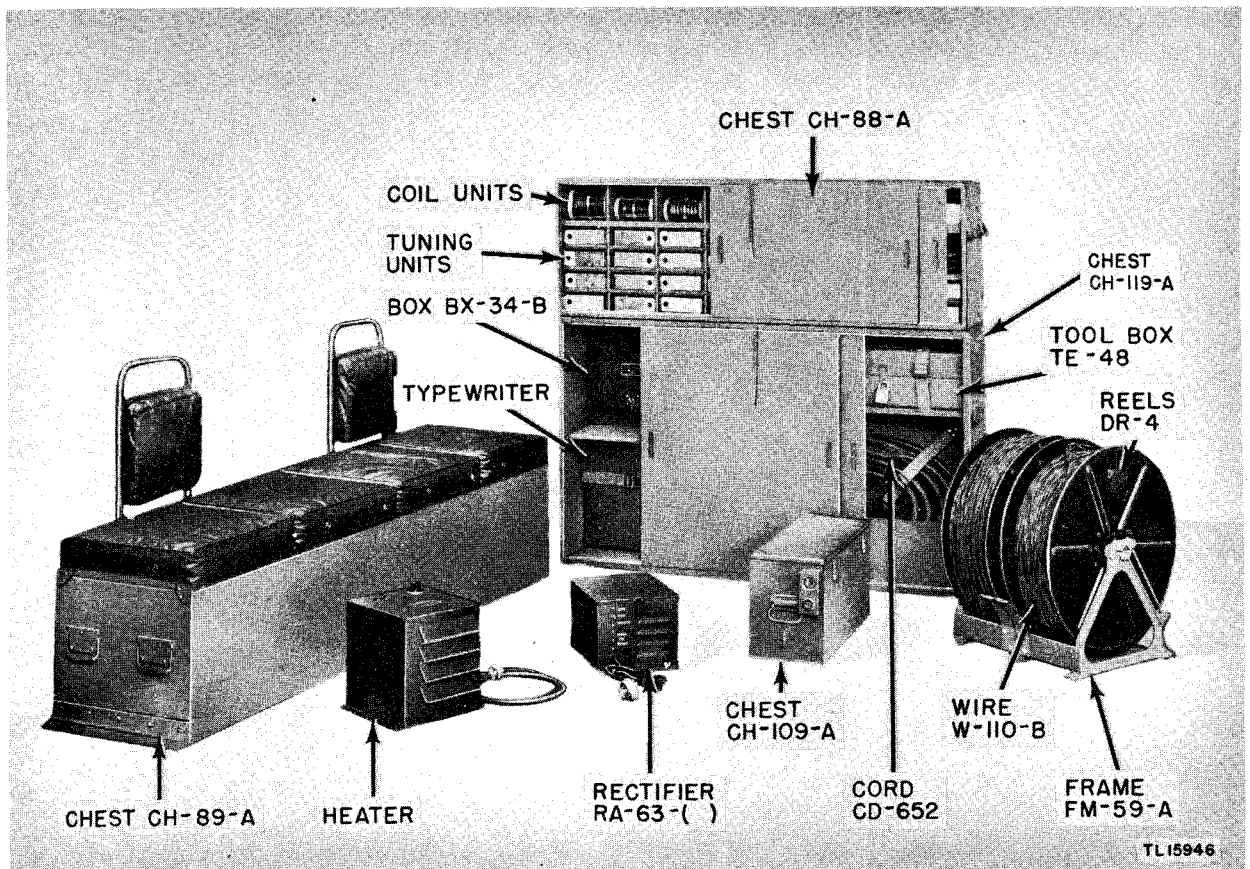

Figure 17. Accessory components of Radio Sets SCR 399-A and SCR-499-A.
### 21. Rectifier RA-63-(\*) (fig. 17)
- (1) Two Telephones EE-8-( ), one in Chest CH-120-A and one in Chest CH-121-A.
- (2) Junction Box JB-60-A, stowed in Chest CH-121-A.
- (3) Key J-45, stowed in Chest CH-121-A.
- (4) Two Reels DR-4, mounted in Frame FM-59-A. (See fig. 17.)
- (5) Wire W-110-B, approximately  $\frac{1}{2}$  mile on each Reel DR-4.
- (6) Axle RL-27-B, stowed in Chest CH-89-A.